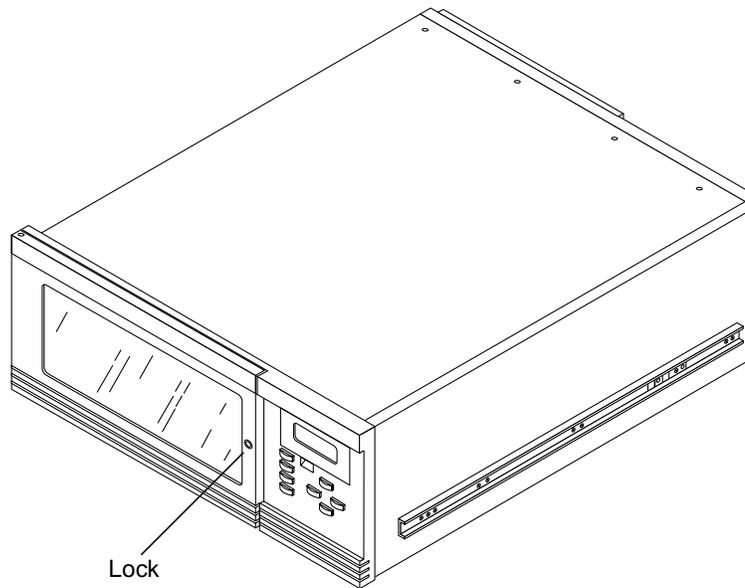

FIGURE 2-1 Lock Location
2. Insert the key vertically into the lock and turn it clockwise 90 degrees (FIGURE 2-1).